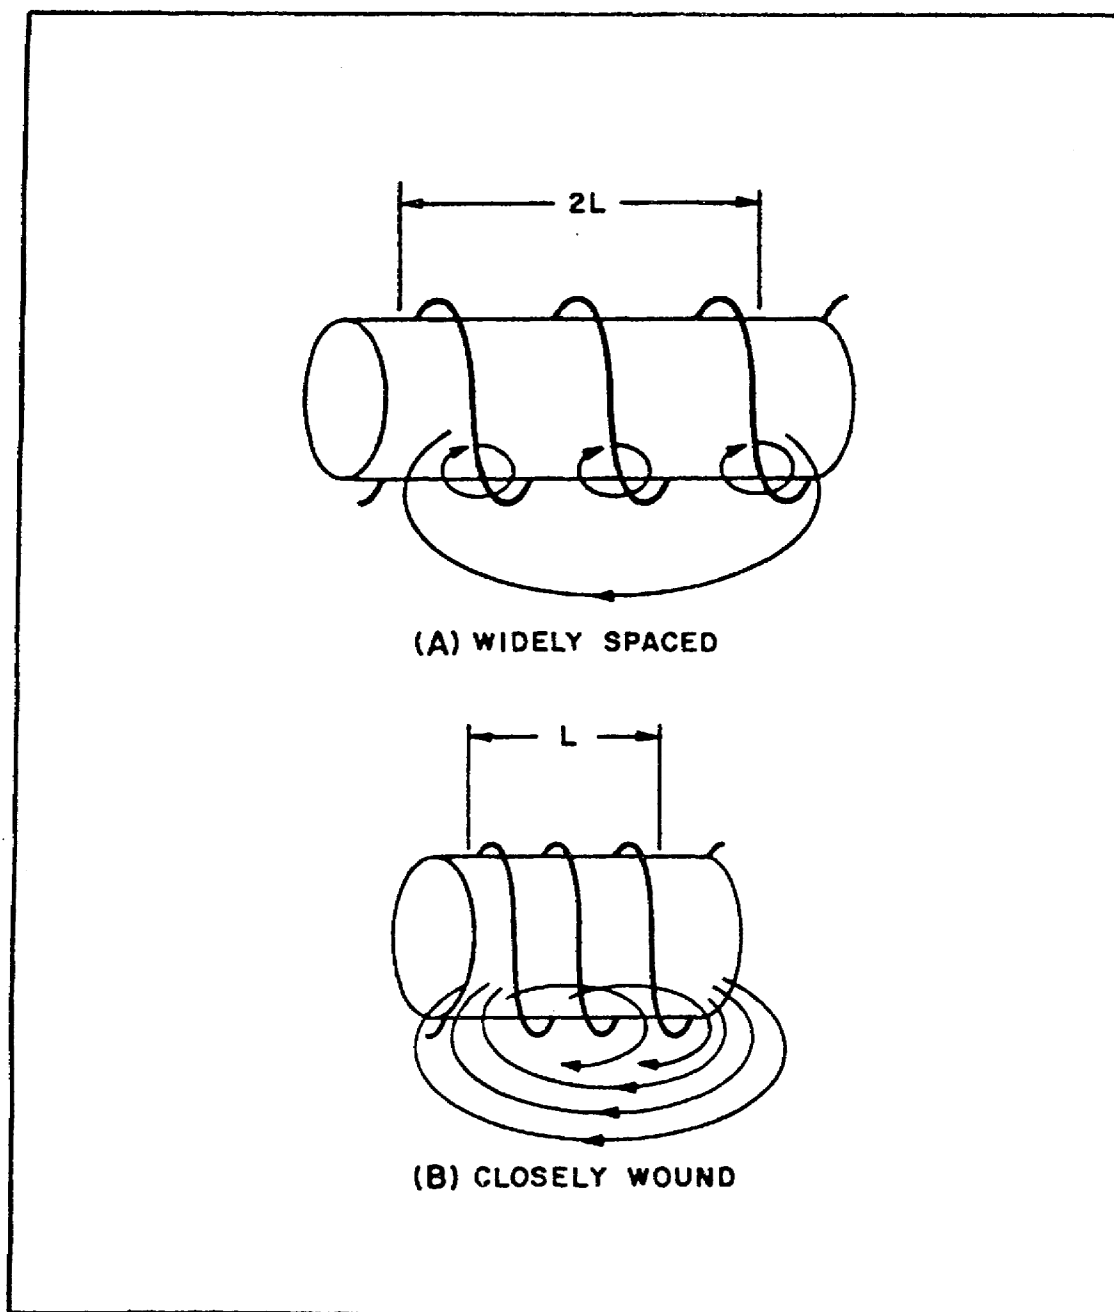

FIGURE 17. INDUCTANCE FACTOR (COIL LENGTH).
(c) *Length of the Coil.* The third factor that affects the inductance of a coil is the length of the coil. Figure 17 on page 26 shows two examples of coil spacings. Coil (A) has three turns, rather widely spaced, making a relatively long coil. A coil of this type has few flux linkages due to the greater distance between each turn. Therefore, coil (A) has a relatively low inductance. Coil (B) has closely spaced turns, making a relatively short coil. This close spacing increases the flux linkage, increasing the inductance of the coil. Doubling the length of a coil while keeping the number of turns the same halves the inductance.